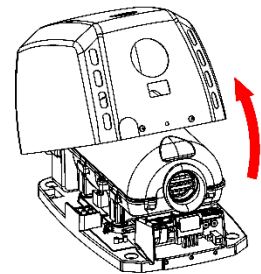

Figure 3.
- Remove the casing keeping it at an angle at all times (Figure 3) until the upper tab is completely withdrawn, taking care to: